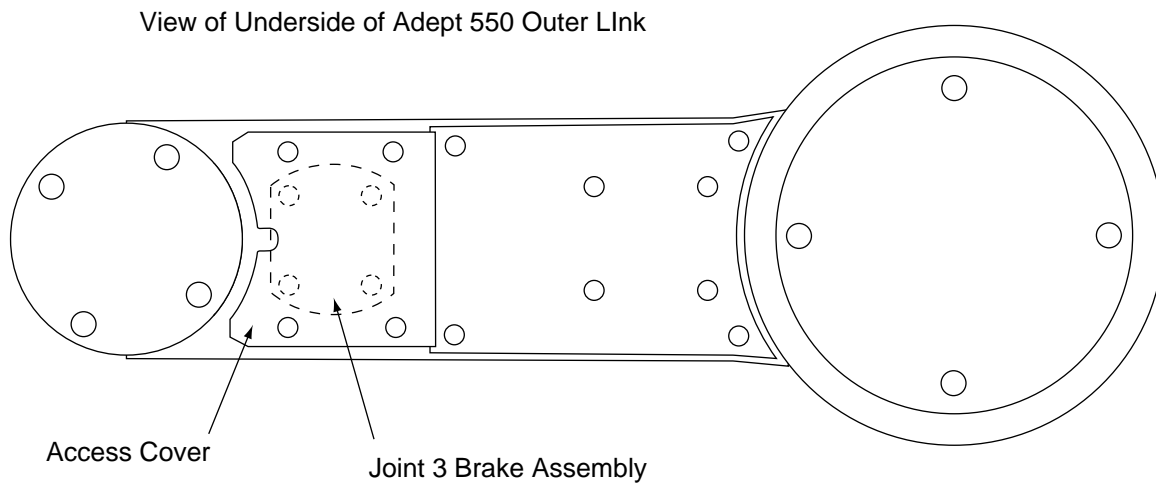

Figure 7-2. Location of Access Cover on Underside of Outer Link
2. Remove the access cover by loosening four screws (using 2.5 mm hex wrench) on the under side of the outer link. See Figure 7-2. Note the path of the cable that runs along the side of the opening so that you can route it the same way at the end of this procedure.